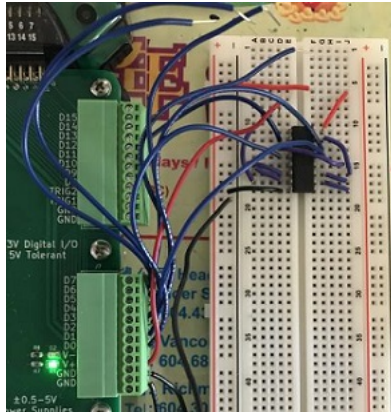

Figure 30: Divide by 100 setup on breadboard
- The finished setup is visible in Figure 30